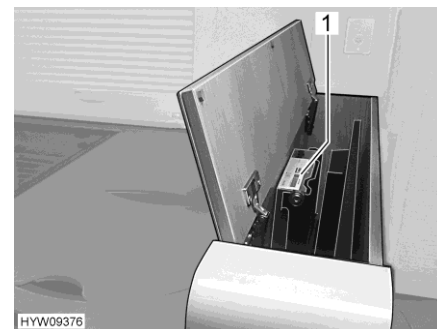

Fig. 100 Flat screen (lowered)
- Manually lowerable flat screen: Lightly press the lifting mechanism (Fig. 100,1) downwards to release the spring. The flat screen automatically moves upwards.